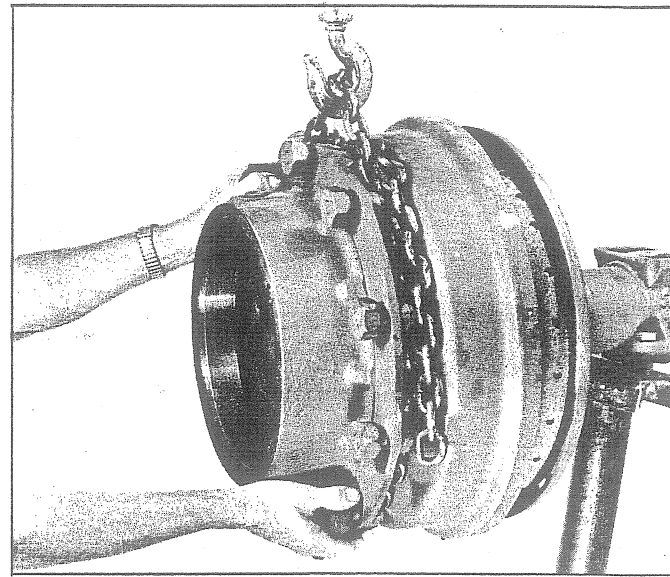

Fig. 8 - Removing or Installing Brake Drum and Hub
8. With the drum and hub still supported, pull brake drum and hub assembly from spindle as shown in Fig. 8.
3. Support hub and brake drum assembly with a suitable hoist -- then work into position over axle as shown in Fig. 8.